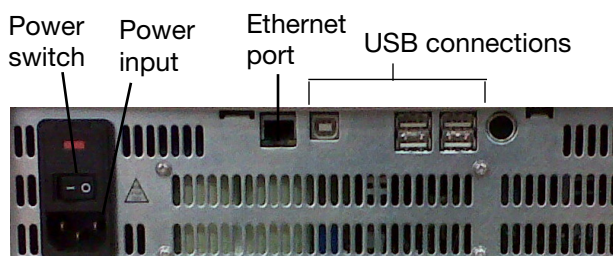

Figure 3. Back panel of C1000 thermal cycler.
The back panel of the C1000 chassis includes these features (Figure 3):
6. Plug the power cord into the back of the C1000 base (Figure 3 on page 3) and into an appropriate three-pronged electrical outlet. Press the power switch on the back panel of the C1000 thermal cycler to start the system.
1. Connect the C1000 chassis to the computer by plugging a USB cable into the USB 2.0 A port located on the back of the chassis (Figure 3 on page 3), and then connecting the cable into the USB 2.0 B port located on the computer.